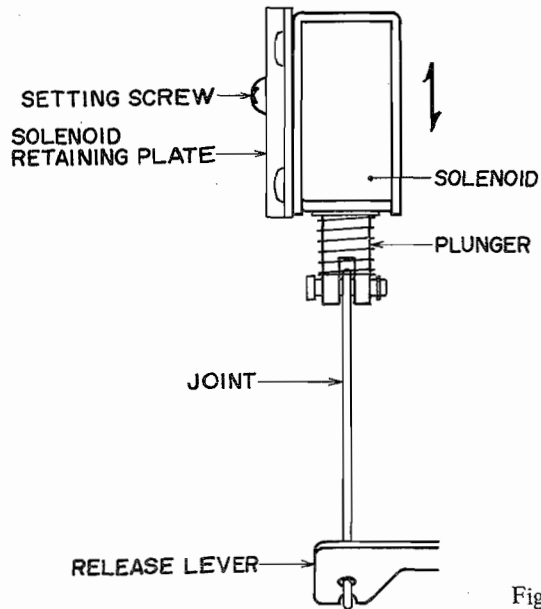

Fig. 18
8. AUTOMATIC STOP PLUNGER SOLENOID POSITION ADJUSTMENT (See Fig. 18)
- 1) Loosen the setting screw which fixes the solenoid so that the solenoid can be moved as indicated by the \updownarrow mark in Fig. 18.